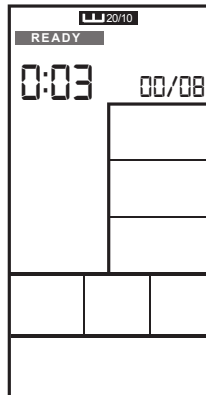

Figure 28
- 2 Cycle time counts down from 3 to 0 then console start, meanwhile buzzer beeps once per second and READY flashes once per second, counting displays '00/08'(Figure 28).